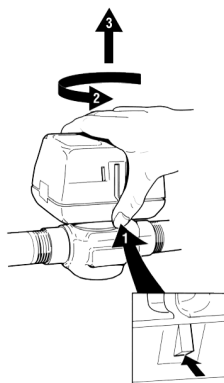

Fig. 4: Removing the actuator
2. You don't need any tool to remove the actuator. The actuator head is automatically latched to the valve. To remove, (Fig. 4) press up on the latch mechanism (1) located directly below the white manual open lever with thumb. Simultaneously press the actuator down towards the body with moderate hand force and turn the actuator counter-clockwise by 1/8 turn (45 degrees). Lift actuator off the valve body.